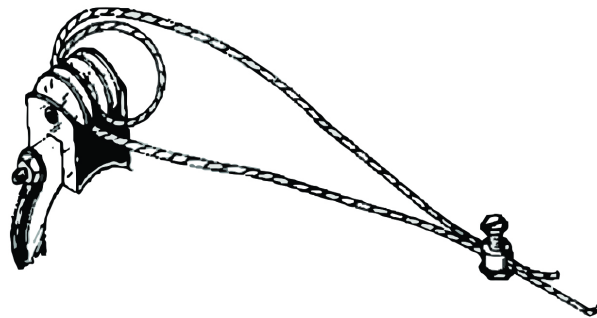

Figure 46. Anti-Roost Cable at the Hopper
7. Start at the hopper end of the line and form a loop around the anti-roost bracket. For best results, make a double loop around the anti-roost insulator in the center groove of the insulator and fasten with a 1/16" cable clamp as shown in **Figure 46.**